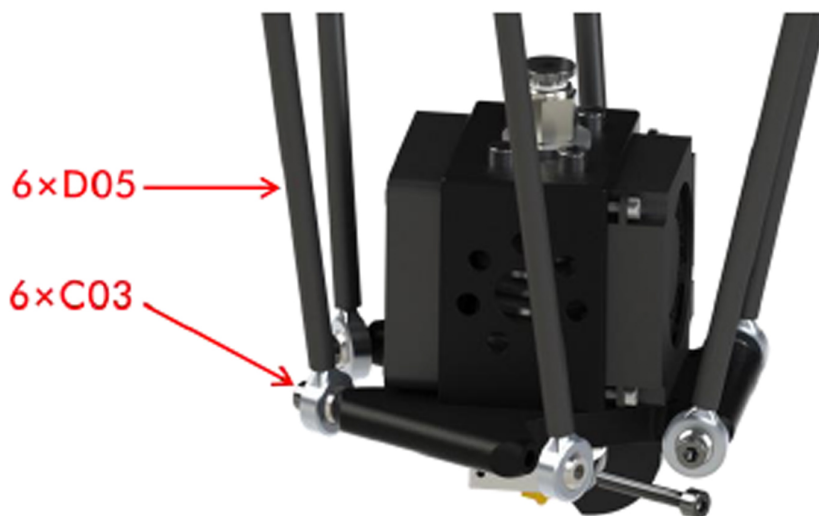

Fig. 9
Step 3. Fix 6 carbon fiber tubes (CFT, D05) onto A03 using C03 screws, as shown in Fig. 9.